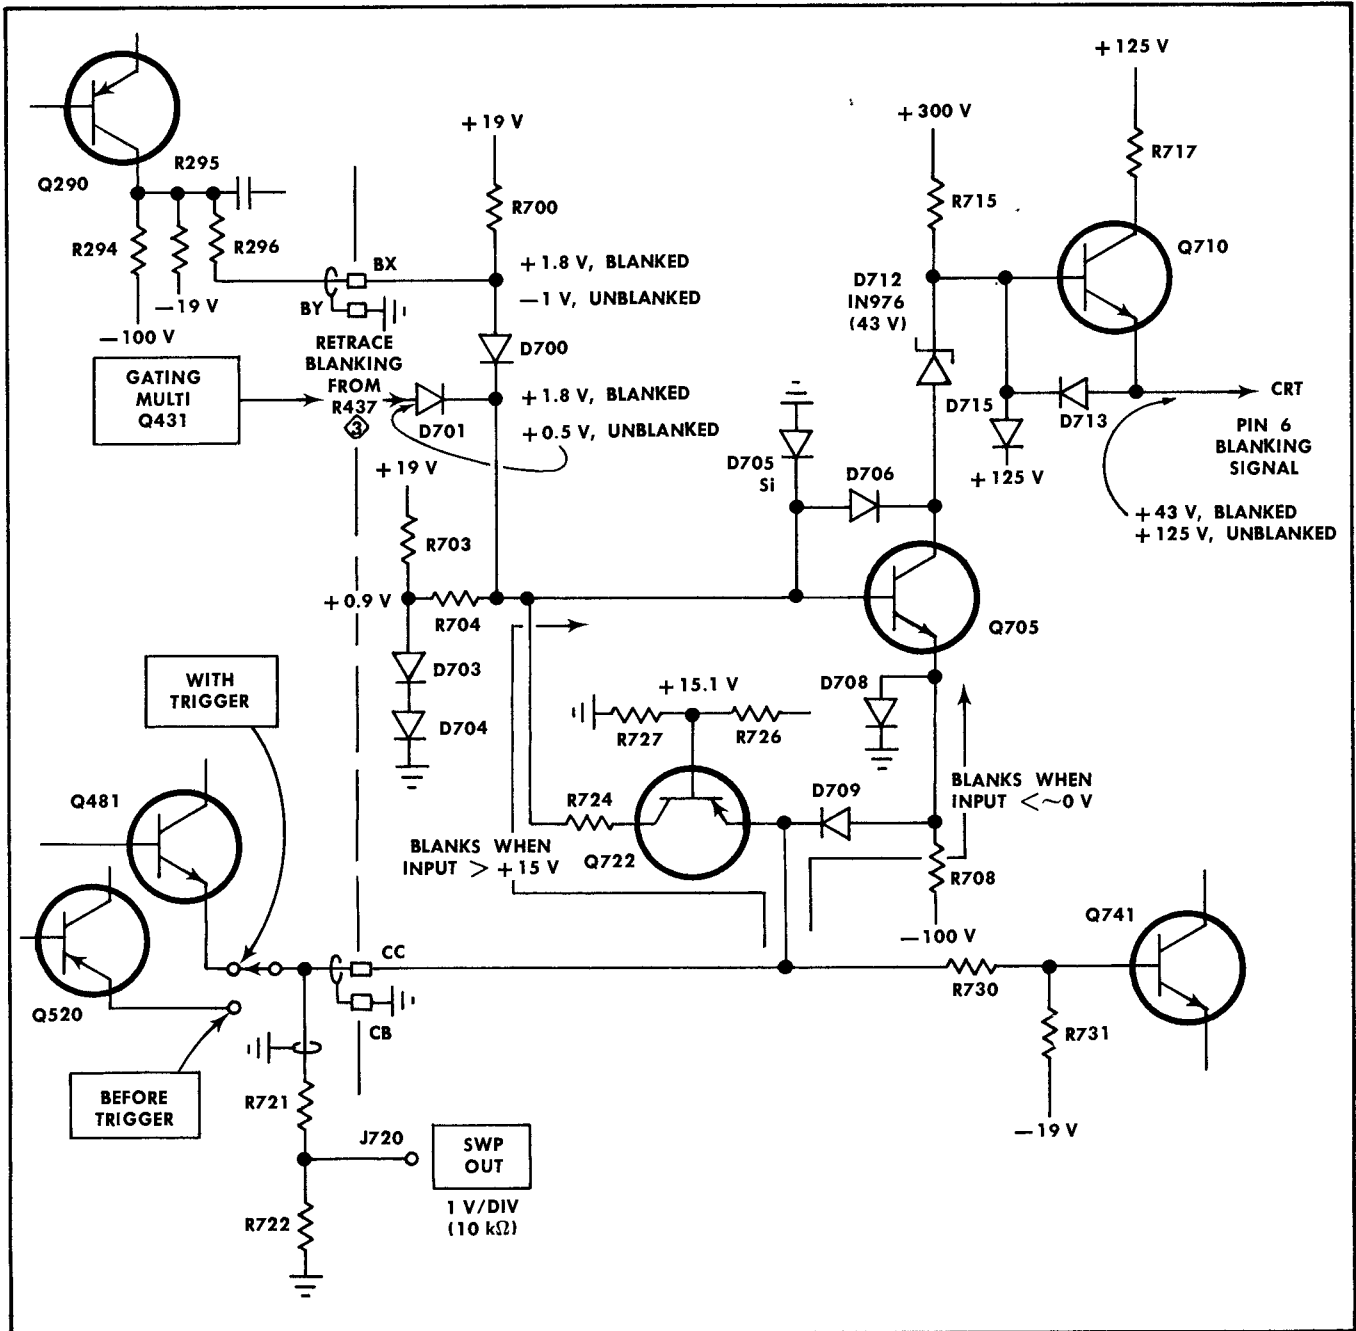

Fig. 4-19. Type 3T2 Blanking circuits.
**Overscan Blanking.** See Fig. 4-19. Q705 normally conducts only 1 mA of current, set by: D703-D704 which set Q705 base voltage at +0.9 volt, and 100 k $\Omega$  emitter return resistor to the  $-100$ -volt supply. At 1 mA current, D712 cathode voltage would be at +200 volts, except that D715 limits the positive value to +125 volts, and D712 limits Q705 collector to +82 volts. Q710 will conduct any stray CRT deflection blanking electrons to the 125-volt supply, but is considered at cutoff as far as the blanking circuit is concerned.
**Interdot Blanking.** Fig. 4-19 shows the Vertical Strobe Driver circuit connections to the blanking circuit. The voltage divider, R296-R700, sets D700 anode voltage at about -1 volt when the CRT dot is in view, and at about +1.8 volt when